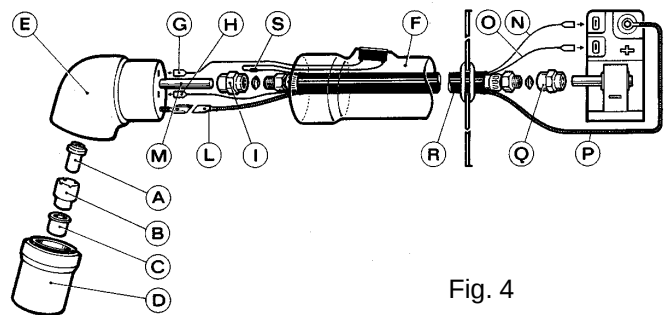

Fig. 4
1) Substitution of consumable parts (fig. 4).
2) Substitution of torch body E (fig. 4).
3) Substitution of complete torch (fig. 4).
4) Substitution of cable R (fig. 4).